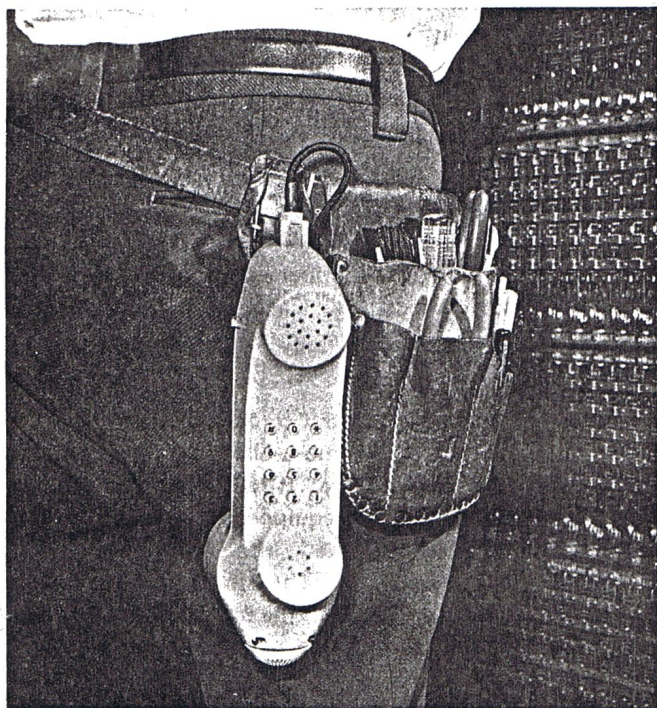

Figure 3 Trub-L-Shooter Suspended from Belt Snap Clip
2.01 The high-impact plastic case affords a rugged unit for inside and outside maintenance forces. A heavy-duty belt snap clip allows easy carrying (see Figure 3).